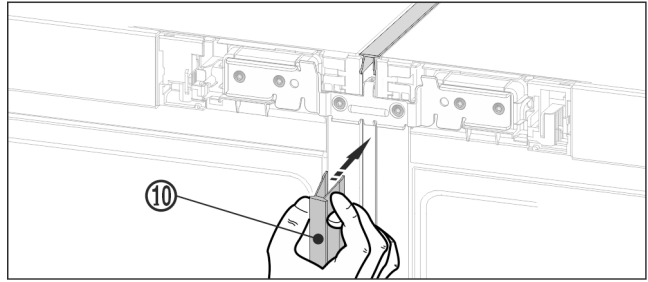

Fig. 22 *
- On the front, press the long cover strip Fig. 22 (10) into the vertical gap. Ensure that the strip rests on the connecting plate.*